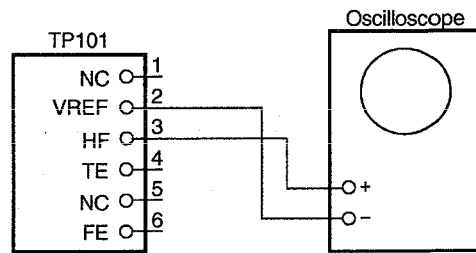

Fig2
7. Turn SELECT knob (" 0 3 " is displayed), also, press PLAY/PAUSE button. HF signal can be observed with the connection below. (Fig2)